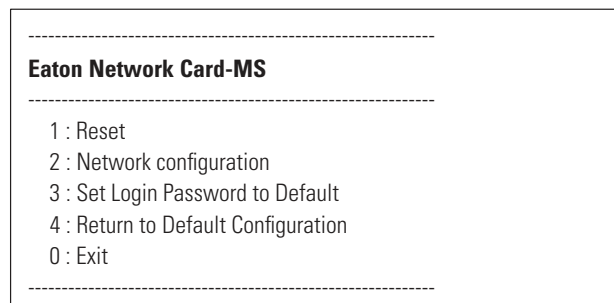

Figure 8. Network Card-MS Main Menu
6. Enter **admin**. The main menu displays (see Figure 8).